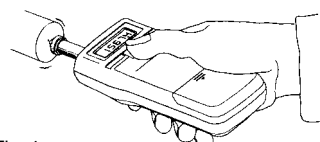

Fig. 1
- While holding the Measure switch down, force the contact tip against the center hole on the turning shaft end as shown in Fig. 1. so that they grip firmly. Maintain the tachometer in a proper position to align the axis of the probe shaft with the axis of the turning shaft to be measured.